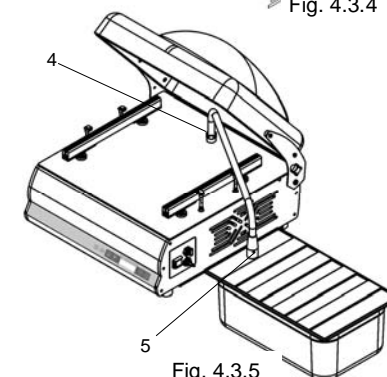

Fig. 4.3.5
6. Attach the suction kit pipe (ref. 4 fig. 4.3.5)
7. Attach the suction kit dome nut to the tray lid valve (ref. 5 fig. 4.3.5)